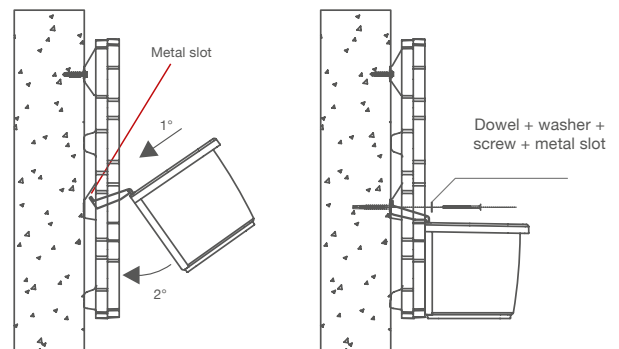

Figure 3: Pot Installation
- Hook the pot as shown in figure 3.